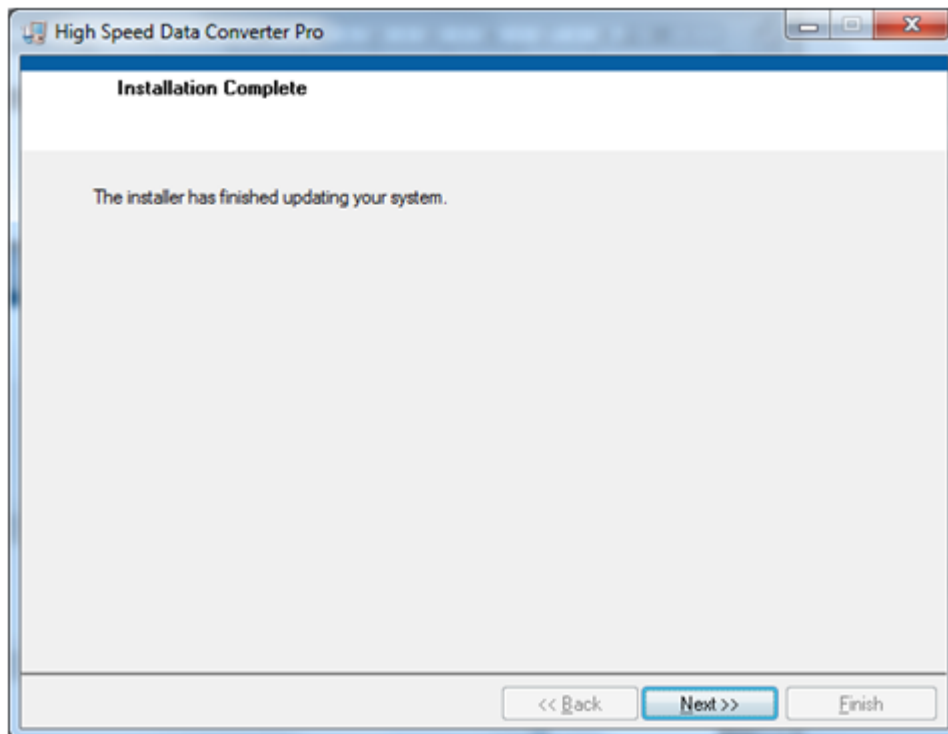

Figure 8. HSDCpro Install (g)
- The window shown in Figure 8 appears indicating *Installation Complete*. Press the *Next* button.